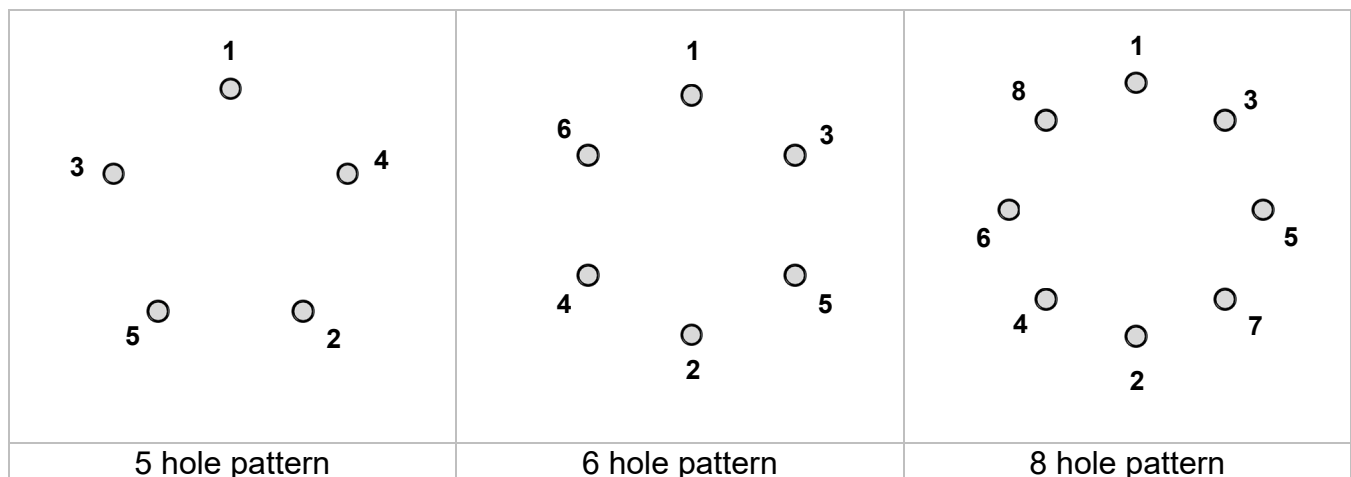

Figure 1 – Star pattern method - torque sequence
Properly torque the wheel lug nuts to the correct specification using the star pattern method (see Figure 1). Refer to the attached charts for correct wheel lug nut torque specification per unit model.
- **If no damage is observed**, reinstall the wheels and torque the lug nuts to the correct specification using the star pattern method (see Figure 1). Refer to the attached charts for correct wheel lug nut torque specification per unit model.